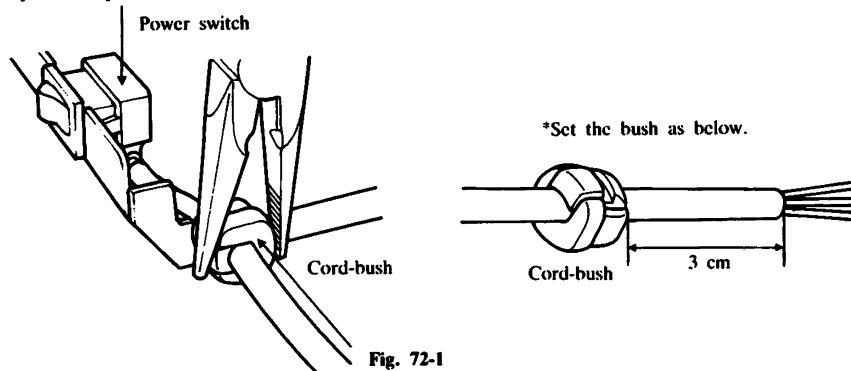

Fig. 72-1
9.2.2 Cord-bush type (See Fig. 72-1)